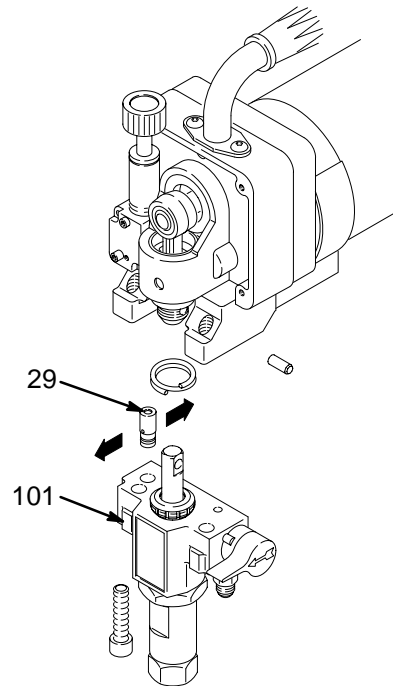

Fig. 30
NOTE: See Fig. 30 for this procedure.
2. Use a pull-twist motion to remove the transducer (29) from the pump manifold (101).
6. Align the holes in the transducer as shown by the arrows in Fig. 30.